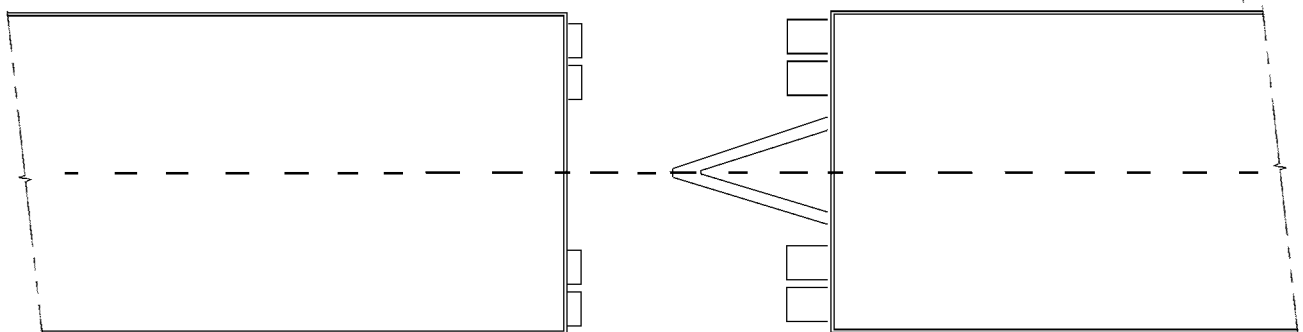

Figure 3-8 Align Truck And Lead Trailer With Pup
1. Place truck and lead trailer directly in front of, and aligned with pup trailer. See figure 3-8.